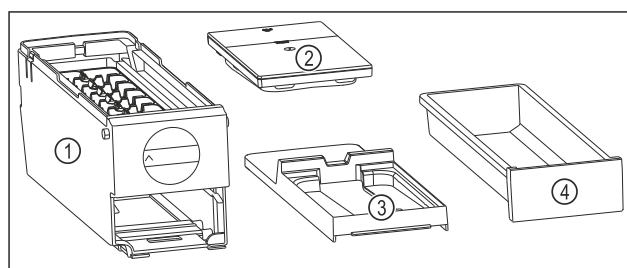

Fig. 173 Components of the EasyTwist-Ice
- EasyTwist-Ice is dismantled into four parts. (see Fig. 173)
- Only dismantle the EasyTwist-Ice into the components shown. (see Fig. 173)
- Clean the EasyTwist-Ice body Fig. 173 (1) as a whole.